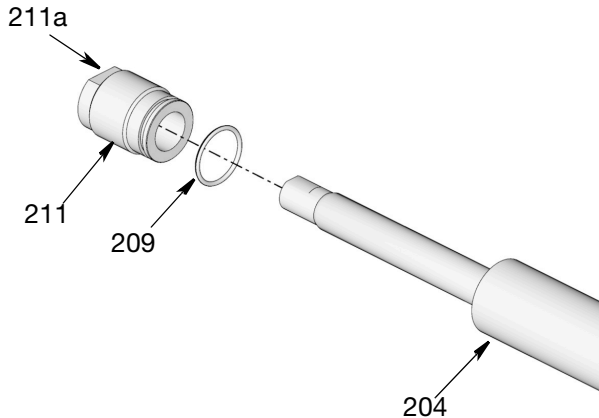

FIG. 43
15. Apply a thin layer of grease to the o-ring (209) and install around the seal retainer (211) (FIG. 43).
16. Thread the seal retainer (211) to the pump cylinder (204) with the seal end installed inside of the pump cylinder, as shown in FIG. 43. Use a wrench on the nut (211a) to tighten the adapter nut securely. Torque to 18-22 ft-lb (24-30 N•m).